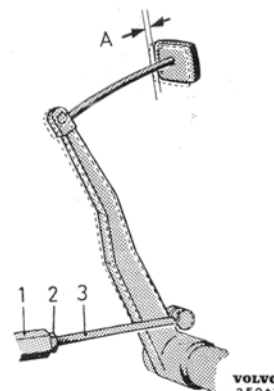

Fig. 31. Adjusting free travel.
The brake pedal free travel is set by adjusting the length of the link-rod (3, Fig. 31). Slacken the lock nut (2) and turn the thrust-rod (1) until the pedal has a free travel of 7—12 mm ( $\frac{9}{32}$ — $\frac{15}{32}$ " (measurement A). Tighten the lock nut.